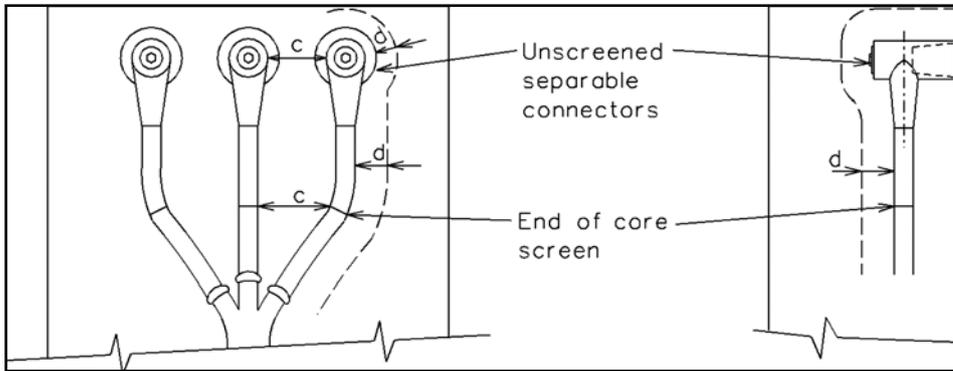

Figure 6: Unscreened separable connector termination (type 3)
- Type 3 termination - unscreened separable connector terminations, figure 6.